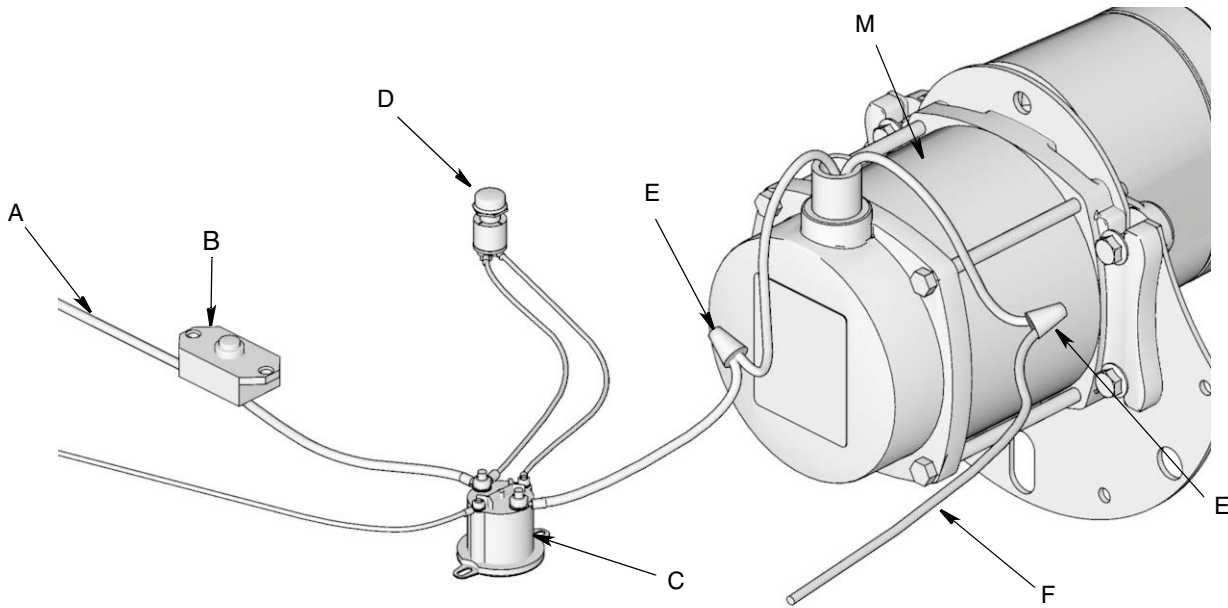
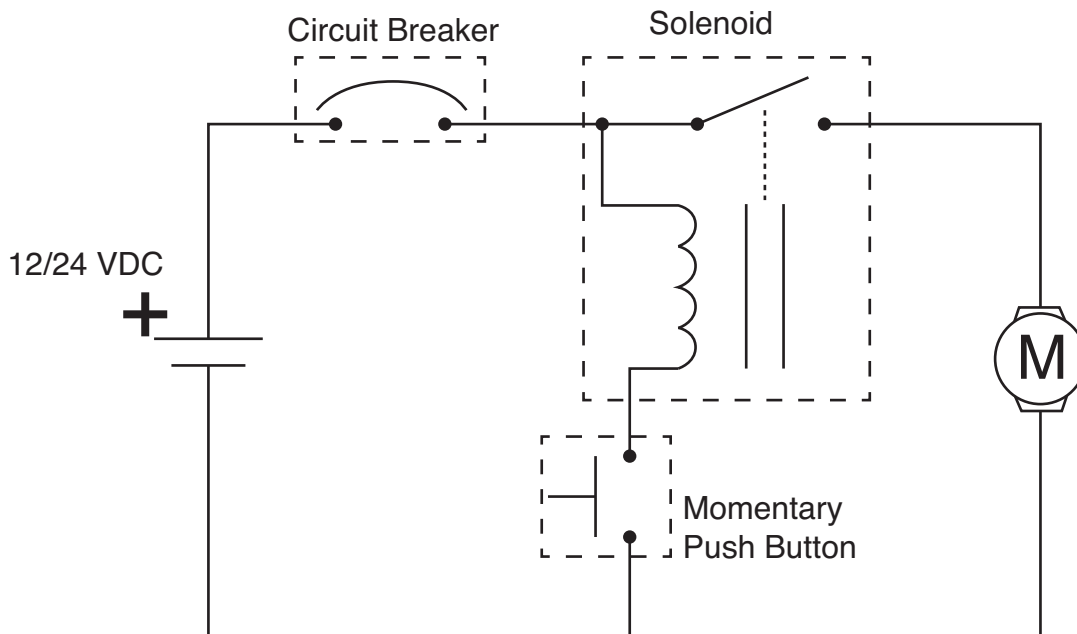

FIG. 5
FIG. 6
2. Follow wiring diagram provided in FIG. 5 and Wiring Schematic provided in FIG. 6.
- c. Apply a light coating of grease to the o-ring (18).
- d. Install outlet (17) on reel.
- e. Reinstall bolts (19). Tighten all four bolts securely. Torque bolts to 24 to 30 ft. pounds (32.54 to 40.67 N.m)
2. Reverse motor direction by swapping leads exiting directly from motor (FIG. 6, page 8).